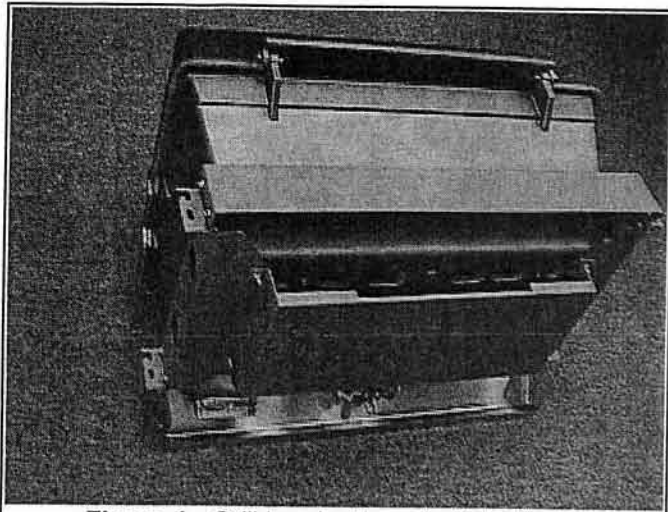

Figure 1 - Grill head with pedestal adapter
- 1) With the grill head positioned on its' front, remove the (4) chassis attachment nuts using a 7/16" wrench (**Figure 1**).
- 2) Install adapter onto chassis screws. Replace and tighten nuts (**Figure 1**).
- 1) With the grill head positioned on it's front (Figure 1), unscrew control panel and rear brace attachment screws. Remove only lower screws from hole (top screws have retainers to aid in assembly).